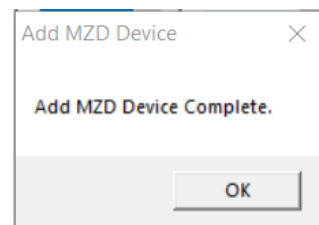

Figure 4
- When completed a **Add Device Complete** box will appear, click **OK**. See Figure 4